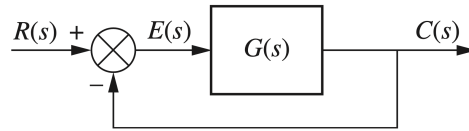

FIGURE P7.1
1. For the unity feedback system shown in Figure P7.1, where